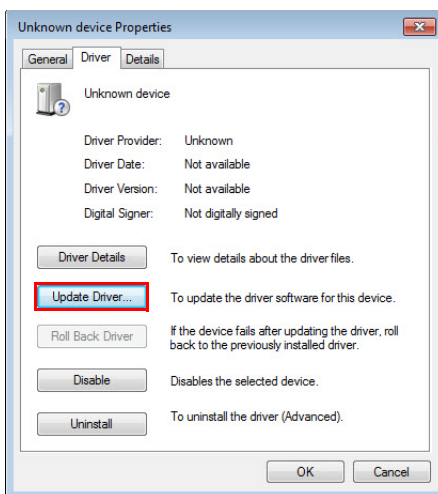

FIG. 171 Unknown Device Properties window (Driver tab)
- In the *Driver* tab, select **Update Driver** (FIG. 171):